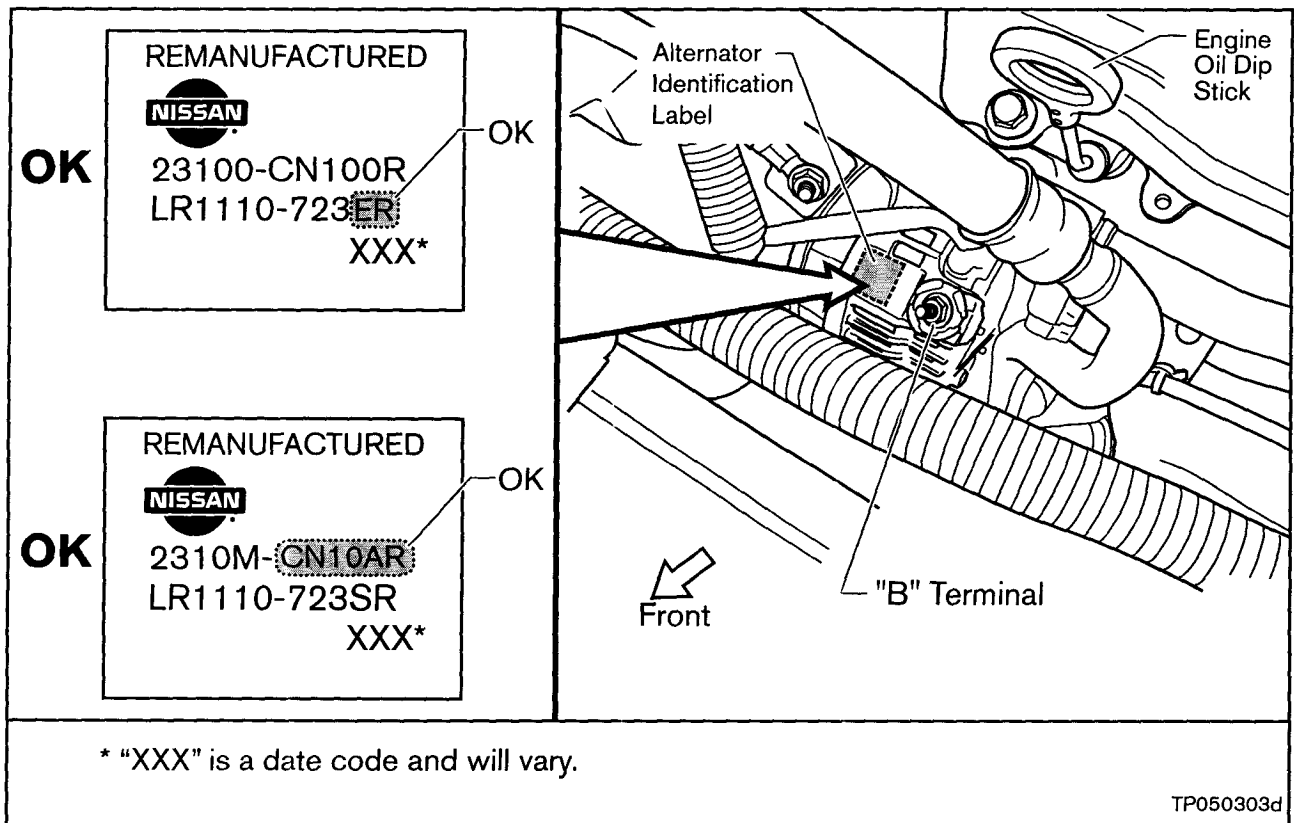

Figure 3
5. Take a look at the Alternator Identification Label (see Figure 3):
- a. If the part numbers on the Label exactly match either one of the highlighted numbers shown in Figure 3, this bulletin does not apply. Do NOT replace the alternator.
- b. If the part numbers on the Label do NOT exactly match either one of the highlighted numbers shown in Figure 3, replace the Alternator. Refer to the “**Alternator Replacement Procedure**” (next page).